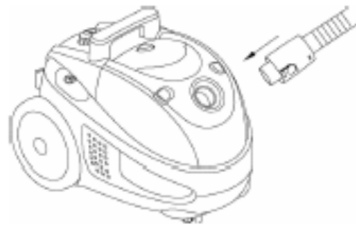

Fig.3
3. Fill the water container with ordinary tap water up to the MAX H2O indicator as shown in figure 3.